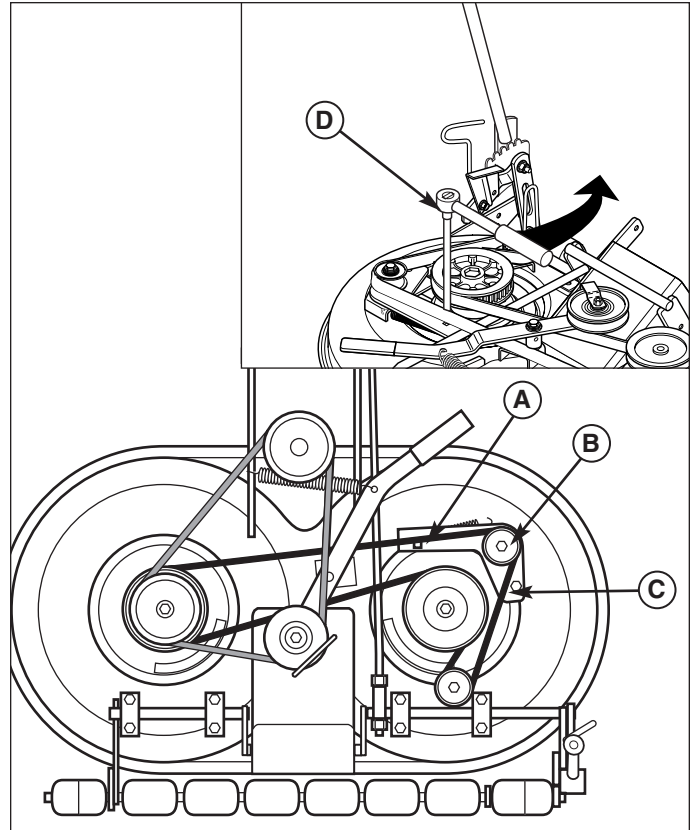

Figure 27. Mower Belt Tension
3. Loosen the idler assembly capscrew (B, Figure 27).
4. Using a 3/8" drive ratchet and extension (D), move the spring-loaded idler assembly (A) to relieve tension on the belt (C).
5. Remove the belt (C) and inspect it for cracks, missing teeth and wear. Replace belt if worn or damaged.
6. Reinstall the belt (C). Releasing the idler assembly (B) allows the spring to automatically tension the clogged belt.
7. Tighten the idler assembly capscrew (B) and reinstall the belt covers.